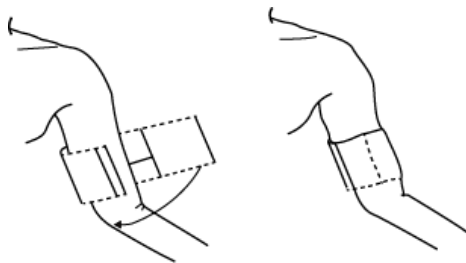

Figure 13-1 Applying Cuff
2. Apply the blood pressure cuff to the patient's arm or leg following the instructions below (Figure 13-1).